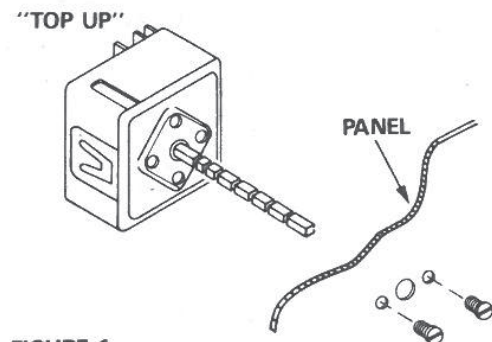
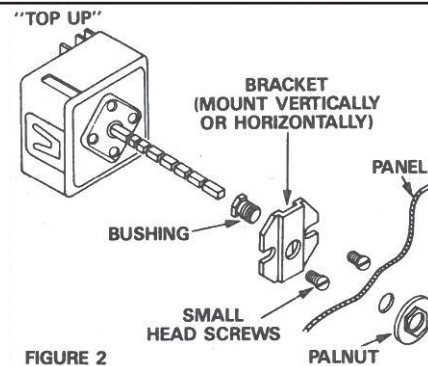
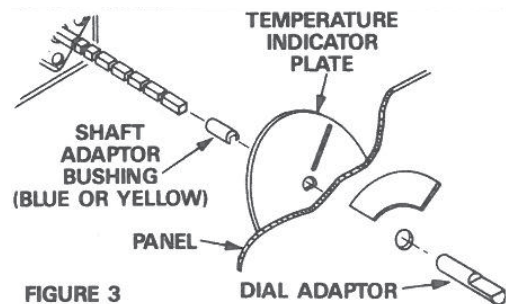

FIGURE 1
FIGURE 2
FIGURE 3
1. Determine mounting type, screw (figure 1) or nut (figure 2), and mount control accordingly. If temperature indicator plate is used refer to figure 3. **NOTE:** Word "TOP" on rear of control must be installed UP for proper calibration.